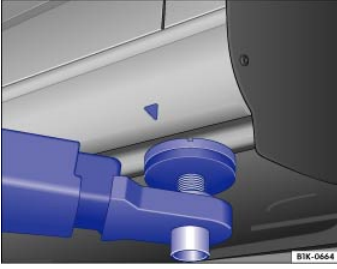
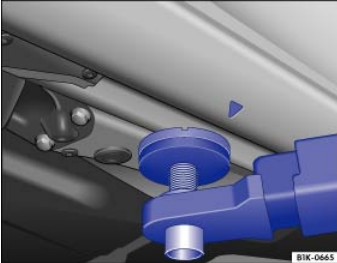

Fig. 168 Front lift point for workshop hoist or floor jack.
Fig. 169 Rear lift point for workshop hoist or floor jack.
The vehicle may only be raised at the lift points shown in illustrations ⇒ Fig. 168 and ⇒ Fig. 169. If the vehicle is lifted at different points, vehicle damage ⇒ ⓘ and serious injuries may occur ⇒ ⚠.
- Always lift your vehicle only at the designated lift points shown in the illustrations ⇒ Fig. 168 and ⇒ Fig. 169. Not using the designated lift points can cause the vehicle to fall off the floor jack when heavy parts such as the engine or transmission are removed.